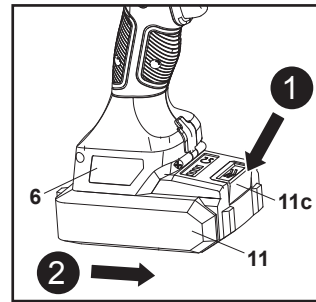

Fig. 5
2. Press the release button (11c) and remove the battery pack (11) from the battery docking port (6) (Fig. 5, steps 1, 2).